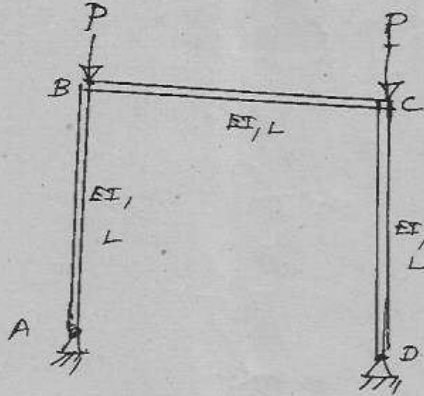

Fig.4
- (b) Determine the critical load of the frame shown in Fig.4 for symmetric buckling. Take EI and L to be constant for all the members.